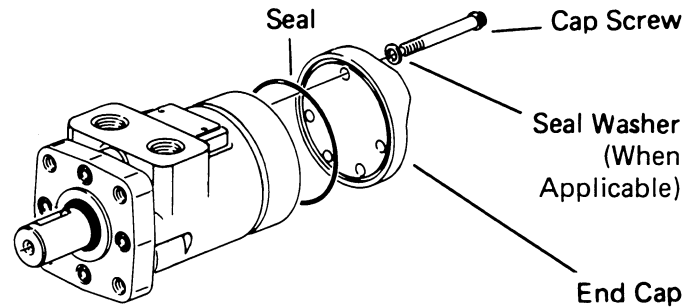

Figure 2
- 2 Remove cap screws and seal washers (when applicable). See Figure 2.